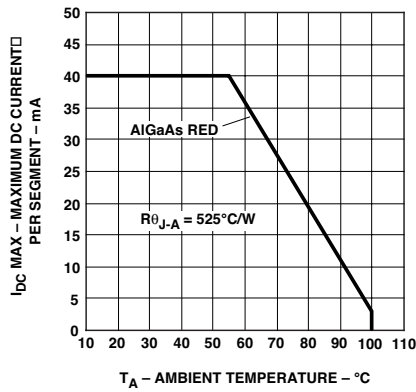

Figure 2. Maximum allowable DC current vs. ambient temperature.
- See Figure 2 to establish pulsed conditions.